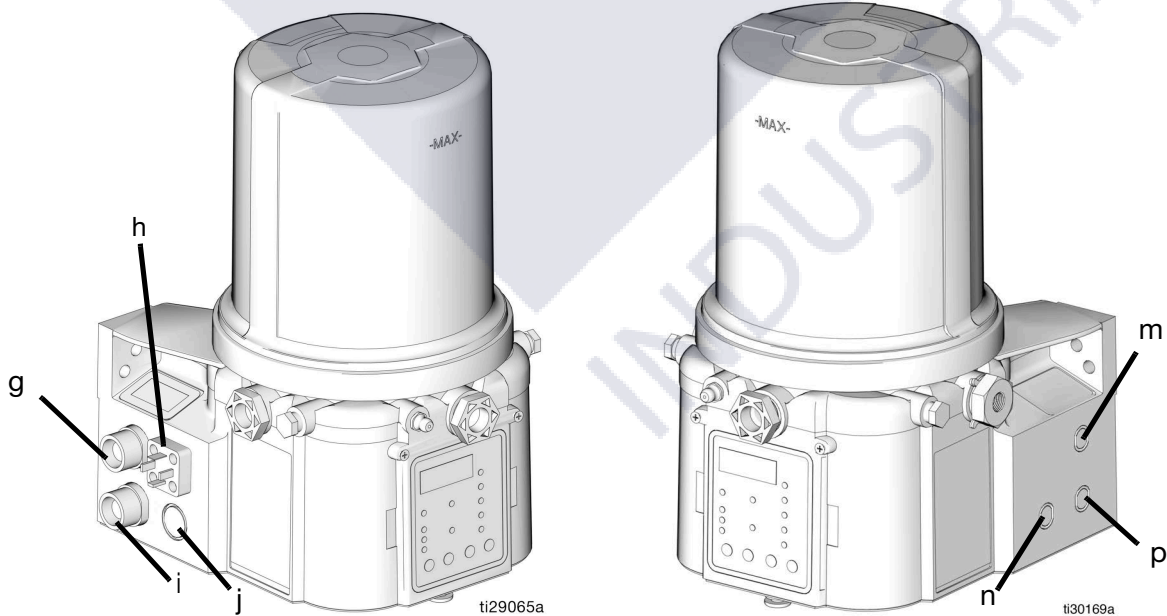

FIG. 1
**NOTE:** Codes g - p relate to a specific location on the G3 pump. See FIG. 1 for these locations.